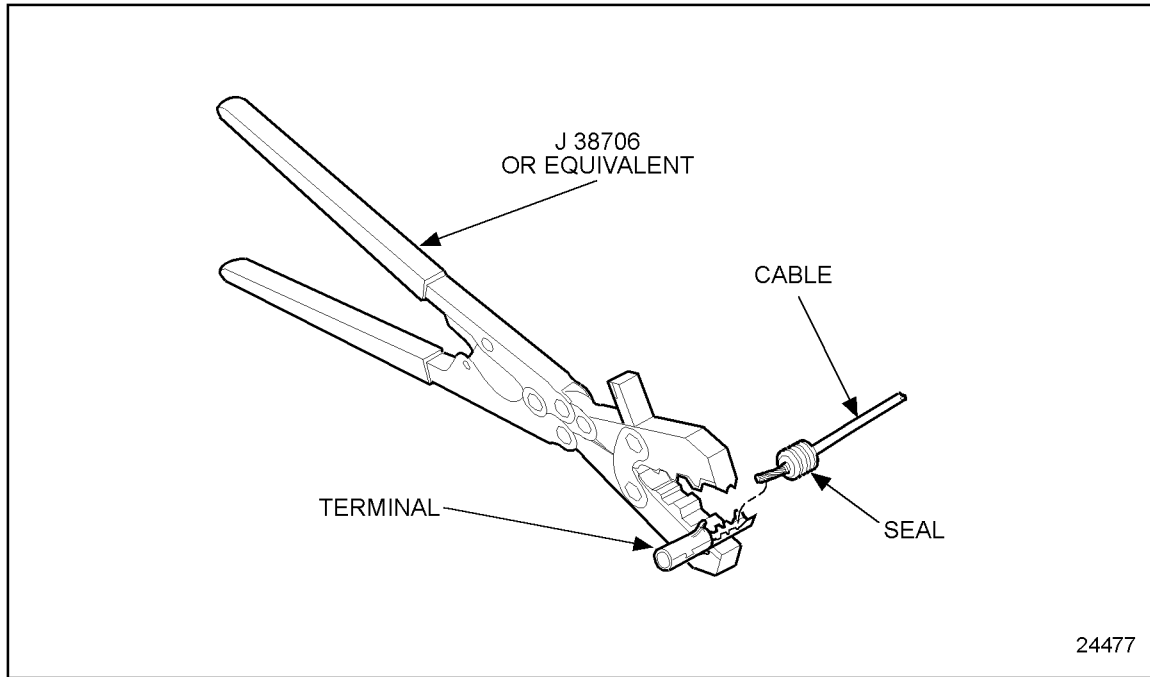

Figure 8-7 **Terminal Position**
1. Insert the terminal into the locating hole of the crimping tool using the proper hole according to the gage of the cable to be used. See Figure 8-7.